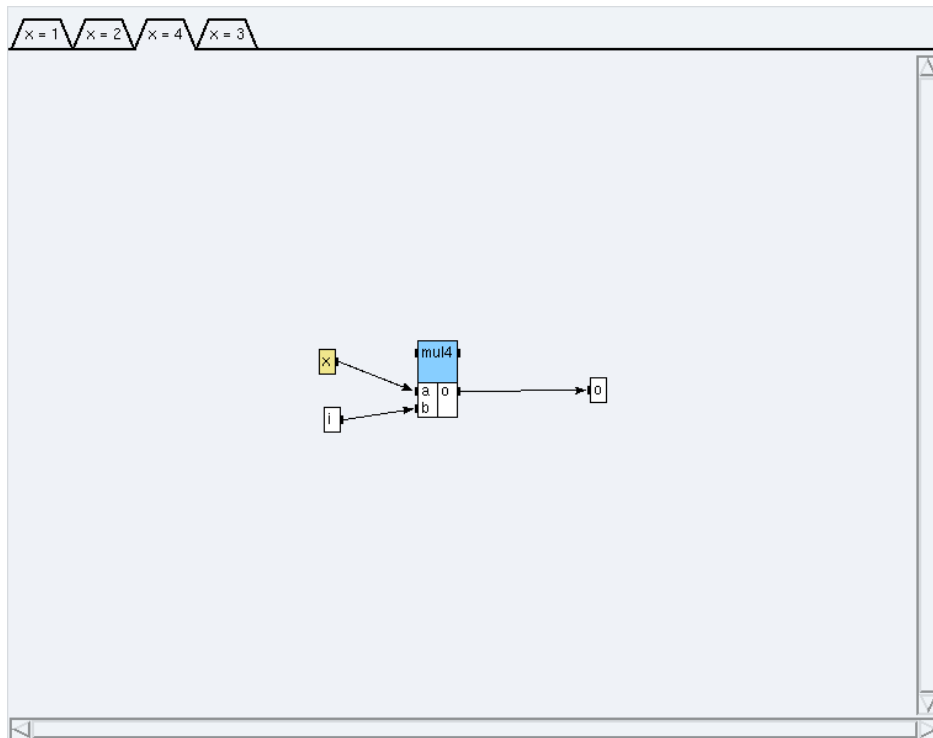

Figure 5.5: Condition $x=4$
- * click on the condition `x=4` (*cf.* figure 5.5) and create a reference `mul4<1>` to the definition `int/Arit_mul`;